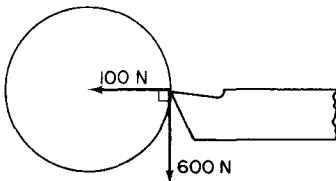

Fig. 2.28
25. Fig. 2.28 shows the forces at the cutting point of a lathe tool. Find the resultant force on the tool.